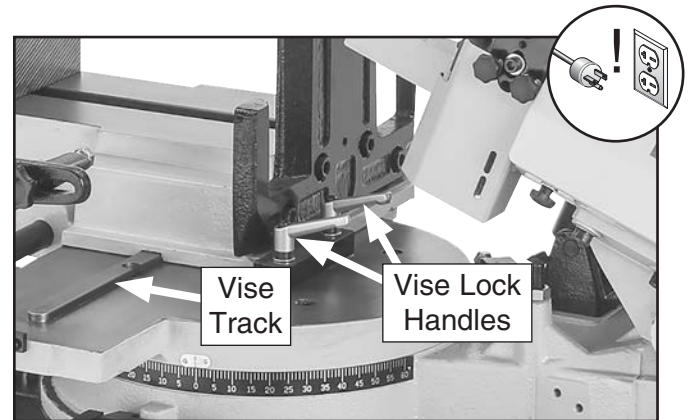

Figure 24. Location of vise lock handles and track.
3. Loosen (2) vise lock handles (see **Figure 24**).
4. Move vise base to opposite side of track (see **Figure 24**), then tighten vise lock handles to secure.